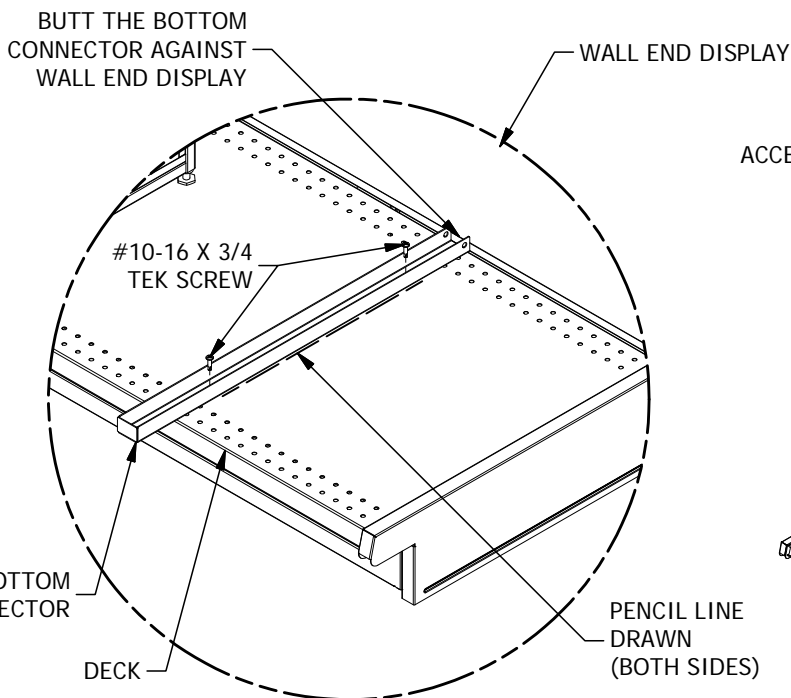

FIGURE 1
STEP 2: Place bottom connector onto deck. Place flush accessory panel inside bottom connector. Move flush accessory panel and bottom connector to the desired location and mark along both sides of the bottom connector with a pencil. Remove flush accessory panel and install bottom connector in the desired location with supplied hardware (reference Figure 1).